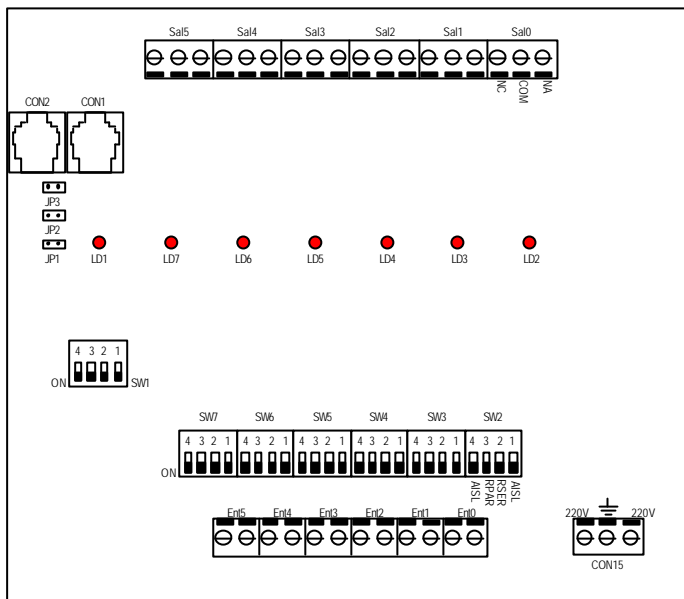

Figure 1.7. Distribution of connectors and jumpers in CLESA module
Figure 1.7 shows the location of different connectors and jumpers that appear when the CLESA module box is opened. The group of connectors Ent 0 to Ent 5 permits you to connect up to 6 input devices to the CLESA module. The group of connectors Sal 0 to Sal 5 permits you to connect up to 6 output devices. The SW2...SW7 microswitches configure each of the module device inputs. The SW1 microswitch permits you to configure the CLESA module identifier in a system with several modules. The CON15 connector is the power point intake.
*The SW1 microswitch (see Figure 1.7) configures the CLESA module identifier in a system with several chained CLESA modules.
The CLESA module and the Remote Center PC VisorNET device are connected through a flat RJ-11 cable with RJ11 connectors attached. These in turn are connected to the RS-485 VisorNET device connectors and the CLESA module CON1 connector (see **Figure 1.7**) respectively.
The outputs consist of a contact (relay) that can be activated or deactivated. Each output has a connector with three contacts (Sal 0,..., Sal 5. See **Figure 1.7**). One is common, another is usually open and when activation is produced, this contact closes the common contact. The third contact is usually closed, and when the activation is carried out, it opens the contact with the common one. U.O. and common or U.C. and common are connected respectively depending on the type of device.